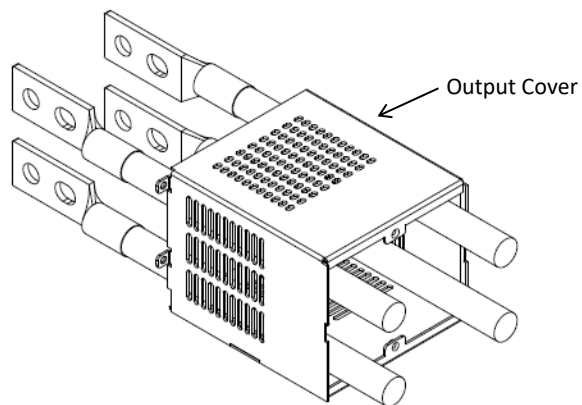

Figure 11: Output Cover Insertion
4. Insert output cover through the cables as illustrated in Figure 11.